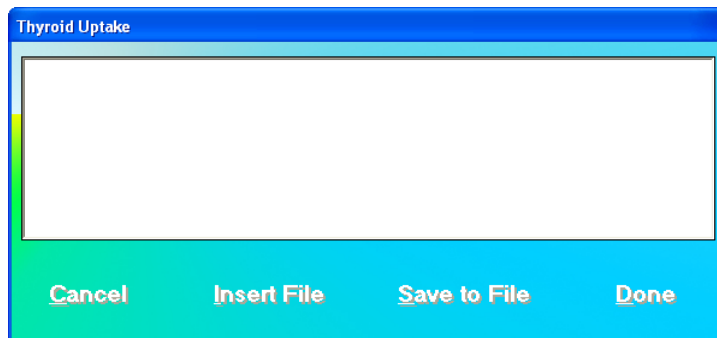

Figure 7-29
6. To add comments to the report, click the **Enter Comment** button or press *Alt+C*. The screen appears as shown in Figure 7-29. Refer to CHAPTER 3: GENERAL OPERATING INSTRUCTIONS; SECTION: ADD COMMENTS SCREEN.